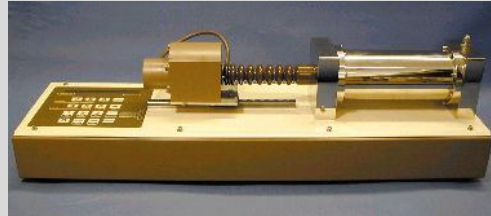

Fig. 9 1000cc Advanced Pressure/Volume Controller (ADVDPCC)
- 1000cc Advanced Pressure/Volume Controller (for application of pore air pressure and measurement of air volume change) as in Fig. 9.